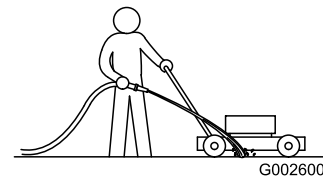

Figure 42
- With the engine running on a flat paved surface, spray a stream of water in front of the **right** rear wheel (Figure 42).